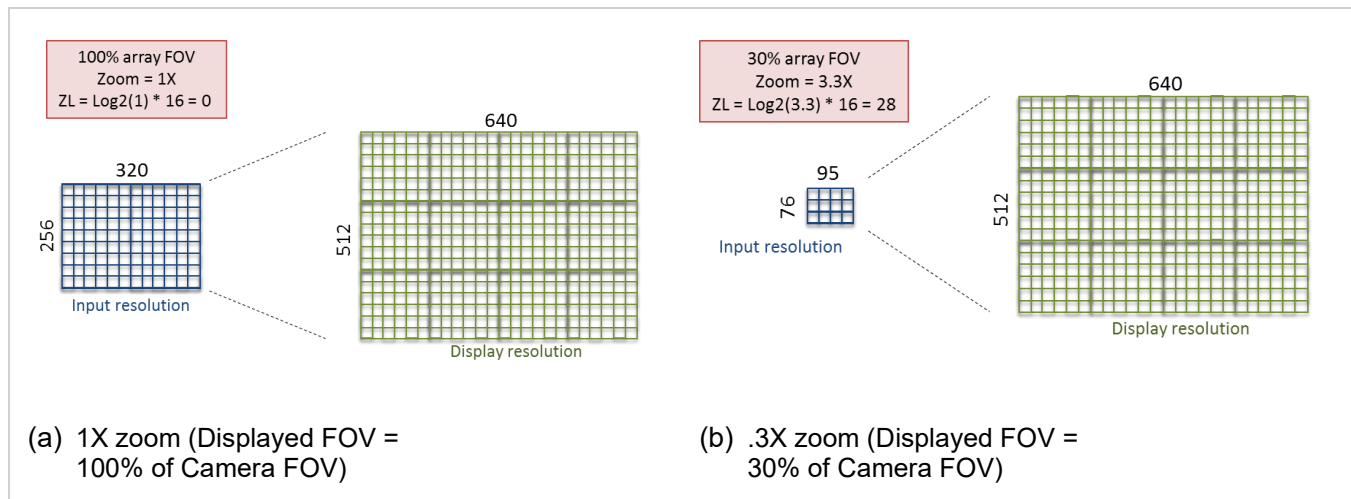
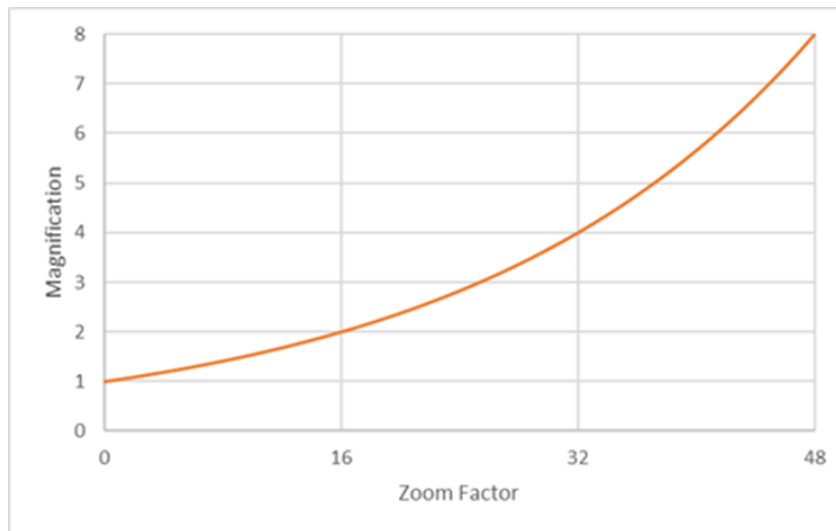

FIGURE 34: VISUALIZATION OF ZOOM FUNCTION
FIGURE 35: ZOOM (RELATIVE MAGNIFICATION) AS A FUNCTION OF SPECIFIED ZOOM LEVEL
Boson+ provides a digital zoom capability in which a zoom window (either the full sensor-array data or some cropped subset) is interpolated to the 640x512 resolution of the post-zoom output stream (Figure 34). For the 320 configuration, the maximum size of the zoom window is 320x256, which means the minimum interpolation factor is 2:1 (640x512 output from 320x256 input). Using the classical definition of digital zoom (sensor FOV divided by displayed FOV), the minimum zoom is 1X, and that is what is used here. The zoom function provides 49 discrete zoom levels (0 – 48). The transfer function between zoom and specified **Zoom Level** (ZL) is depicted graphically in Figure 35. Note that the maximum zoom is $2^3 = 8X$.